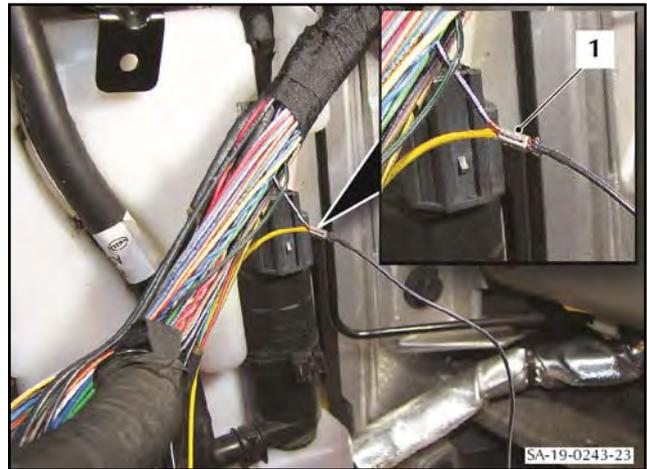

Figure 60
77. Use the crimp from the kit to attach the new ground wire to the black/purple wire (1) (refer to Figure 60).